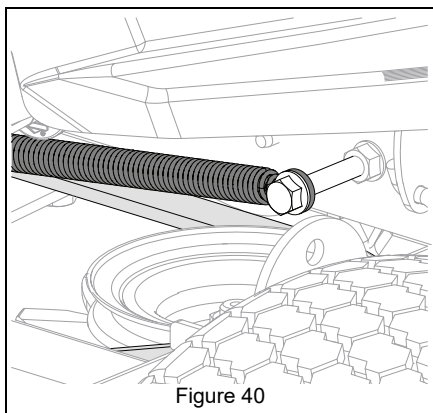

Figure 40
2. Reinstall transaxle drive idler spring hook around anchor bolt. See Figure 40.